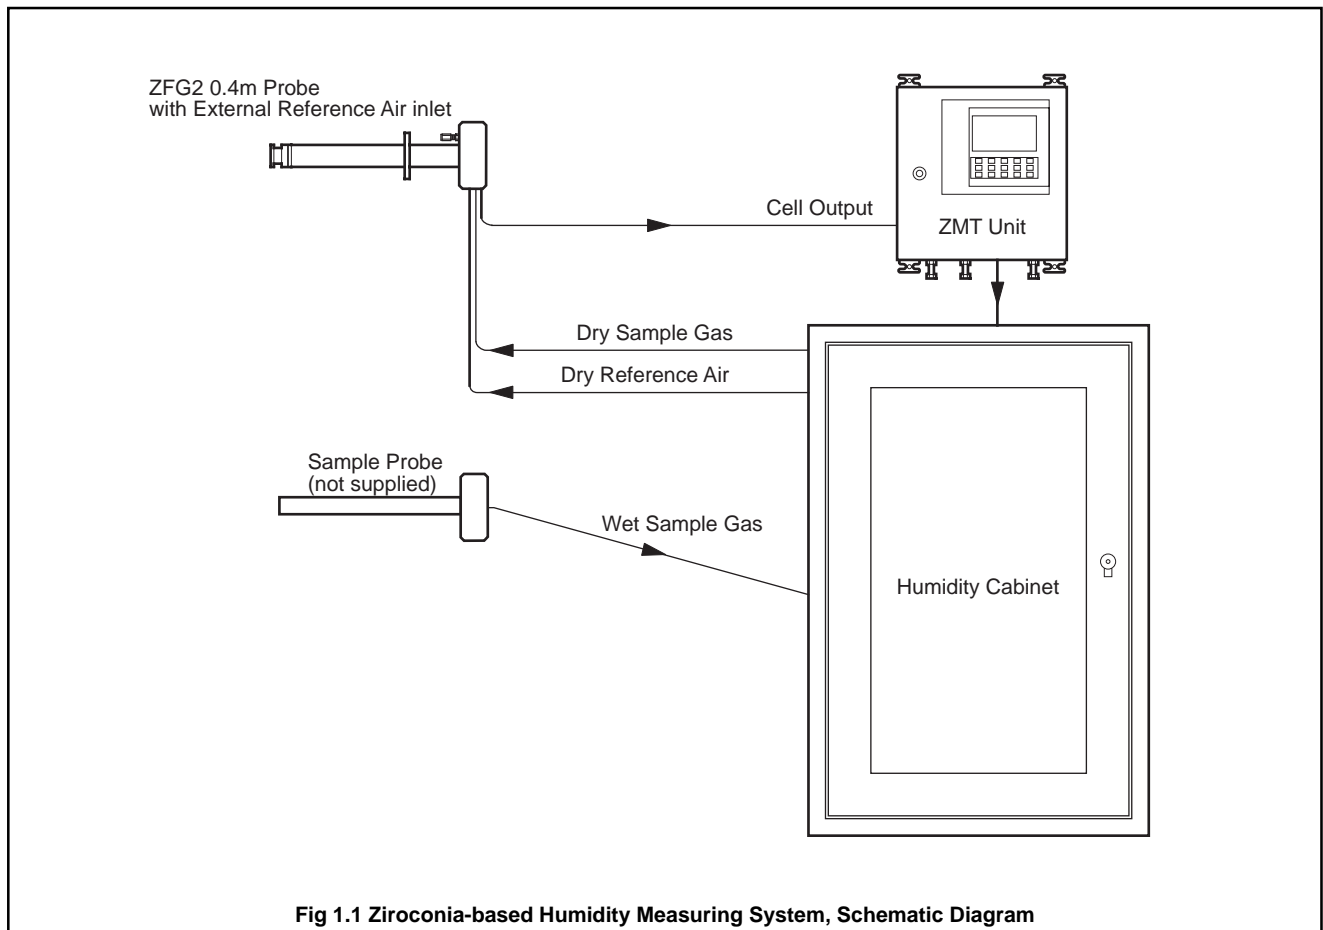

Fig 1.1 Zirconia-based Humidity Measuring System, Schematic Diagram
1.1 Principle of Operation – Fig 1.1